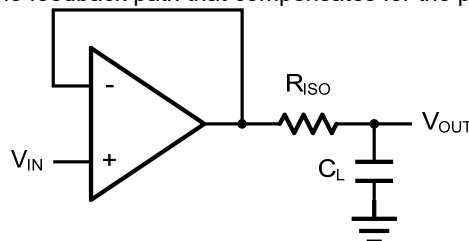
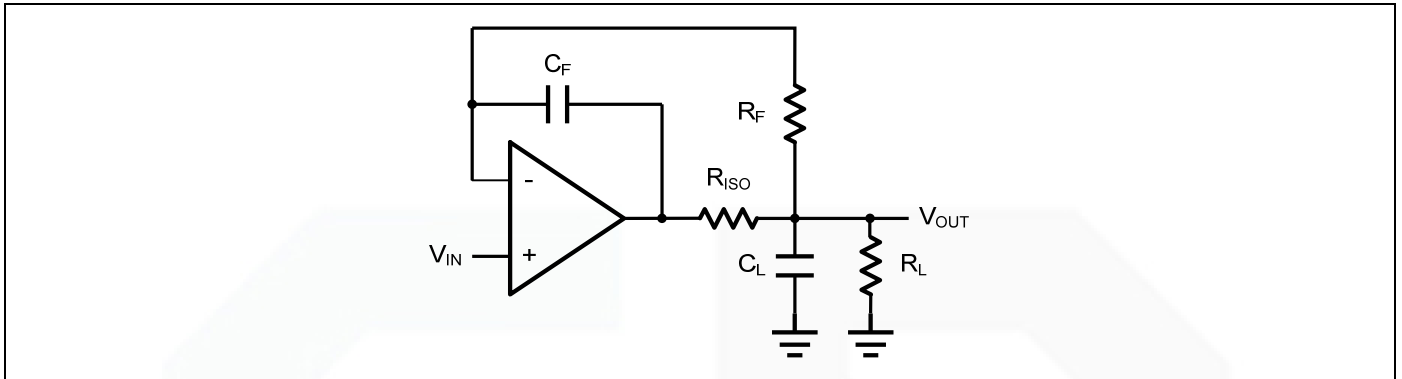

Figure 2 Indirectly Driving a Capacitive Load Using Isolation Resistor
Figure 3. Indirectly Driving a Capacitive Load with DC Accuracy
The MCP600X family is optimized for bandwidth and speed, not for driving capacitive loads. Output capacitance will create a pole in the amplifier's feedback path, leading to excessive peaking and potential oscillation. If dealing with load capacitance is a requirement of the application, the two strategies to consider are (1) using a small resistor in series with the amplifier's output and the load capacitance and (2) reducing the bandwidth of the amplifier's feedback loop by increasing the overall noise gain. Figure 2 shows a unity gain follower using the series resistor strategy. The resistor isolates the output from the capacitance
The circuit in Figure 3 is an improvement to the one in Figure 2. R_F provides the DC accuracy by feed-forward the V_{IN} to R_L . C_F and R_{ISO} serve to counteract the loss of phase margin by feeding the high frequency component of the output signal back to the amplifier's inverting input, thereby preserving the phase margin in the overall feedback loop. Capacitive drive can be increased by increasing the value of C_F . This in turn will slow down the pulse response.